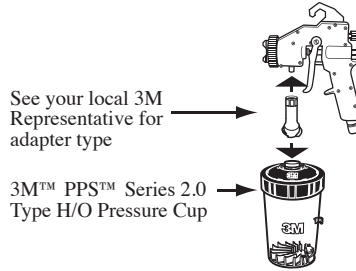
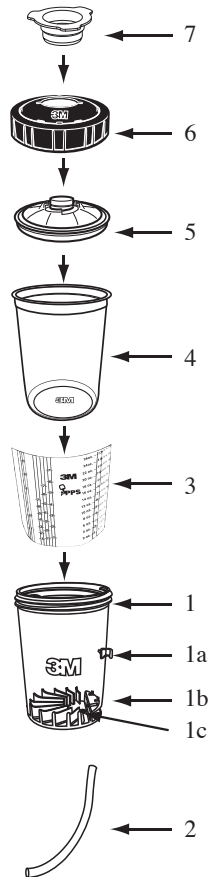

Figure 1
Figure 2
- Requires the use of a 3M™ PPS™ Series 2.0 spray gun adapter (sold separately) to attach the 3M™ PPS™ Series 2.0 Type H/O Pressure Cup to the spray gun. Reference Figure 1.
- Use Only Genuine 3M Parts and Accessories. Reference Figure 2 Component Listing.
1. Insert optional 3M™ PPS™ Mix Ratio Film Insert (3) into the 3M™ PPS™ Series 2.0 Type H/O Pressure Cup (1) if desired. Otherwise, insert a 3M™ PPS™ Liner (4) into the 3M™ PPS™ Series 2.0 Type H/O Pressure Cup (1) and add the desired amount of material to be sprayed.
2. Insert a 3M™ PPS™ Series 2.0 H/O Lid (5) onto the 3M™ PPS™ Liner (4) and press down until secured.
3. Align the opening on the Retaining Collar Shroud Assembly (6) with the 3M™ PPS™ Series 2.0 H/O Lid and screw the Retaining Collar clockwise onto the 3M™ PPS™ Series 2.0 Type H/O Pressure Cup (1) and hand-tighten.
4. If the material will not be sprayed immediately, a 3M™ PPS™ Series 2.0 Plug (7) can be inserted into the lid spout to seal contents.
5. When ready to spray the contents, remove 3M™ PPS™ Series 2.0 Plug (7) if used, and connect the spray gun with the previously installed 3M™ PPS™ Series 2.0 Adapter to the 3M™ PPS™ Series 2.0 Type H/O Pressure Cup. Reference Figure 1.
6. Attach the cup pressure hose (2) from the spray gun to the pressure port (1b) on the 3M™ PPS™ Series 2.0 Type H/O Pressure Cup. The hose clip on the cup (1a) may be used to hold the hose securely in place while spraying, hose clip included in 3M™ PPS™ Series 2.0 Type H/O Pressure Cup (Large) only.